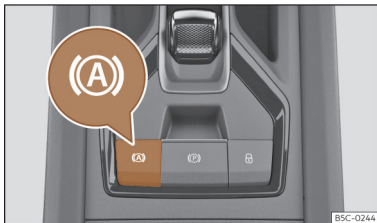

Fig. 156 In the lower part of the centre console: Auto Hold function button.
- (A) The control lamp of the (A) button >>> **Fig. 156** remains on when the Auto Hold function is connected.